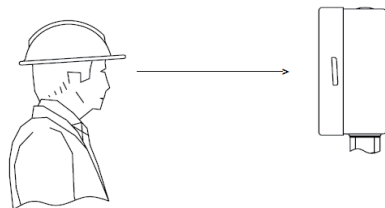

Figure 10
- 5) The line of vision should be in line with the gauge when checking the pressure (Figure 10).